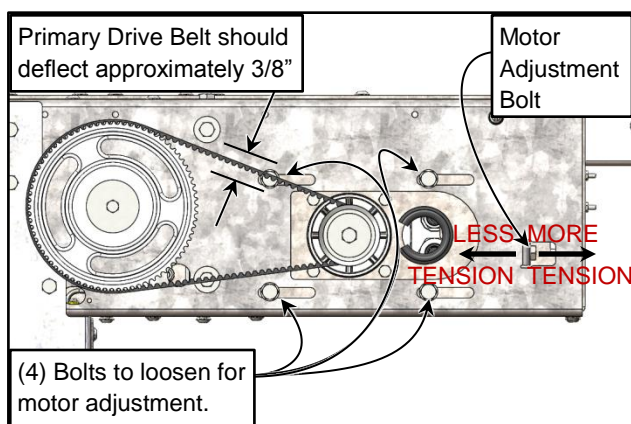

Figure 61
4. Loosen the four hex head screws securing the drive motor assembly to the drive side head console assembly. (See Figure 61)
12. Re-inspect the drive belt to make sure it is properly tensioned. (See Figure 61)